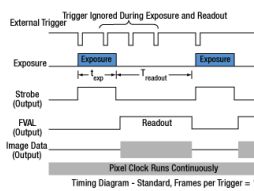

Figure 2: Asynchronous triggered acquisition
Figure 2 shows plots of the different noise components, including dark shot noise at three sensor temperatures, as a function of exposure time for three photon fluxes. The plots show that dark shot noise is not a significant contributor to total noise except for low signal (and consequently long exposure) situations. While the photon flux levels used for the calculations are given in the figure, it is not necessary to know the exact photon flux level for your application. Figure 2 suggests a general metric based on exposure time that can be used to determine whether a cooled camera is required if the exposure time can be estimated, and these results are summarized in Table 2. If you find that your dominant source of noise is due to the read noise, then we recommend running the camera at a lower CCD pixel clock rate of 20 MHz, since that will offer a lower read noise.
**Figure 2:** Noise from all sources as a function of exposure for three different photon fluxes: (a) low, (b) medium, and (c) high. In (c) the signal and photon shot noise saturate above approximately 20 seconds because the pixel becomes saturated at the corresponding incident photon levels. A quantum efficiency of 60% was used for the calculations. Note that these plots use logarithmic scales for both axes.
- **"Frames per Trigger" Set to 1**: Then the camera will operate in asynchronous triggered acquisition mode (Figure 2).